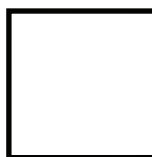
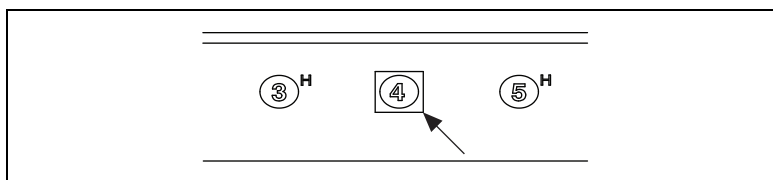

Figure 2-1. System Timing Device Slot Indicator Glyph without Circle
Figure 2-2. System Timing Device Slot Indicator Glyph on the NI PXIe-1062Q Chassis
2. Locate the System Timing Slot in your chassis. It is marked by either a square glyph shown in Figure 2-1, or a square glyph with a circle inside of it, as shown in Figure 2-2.